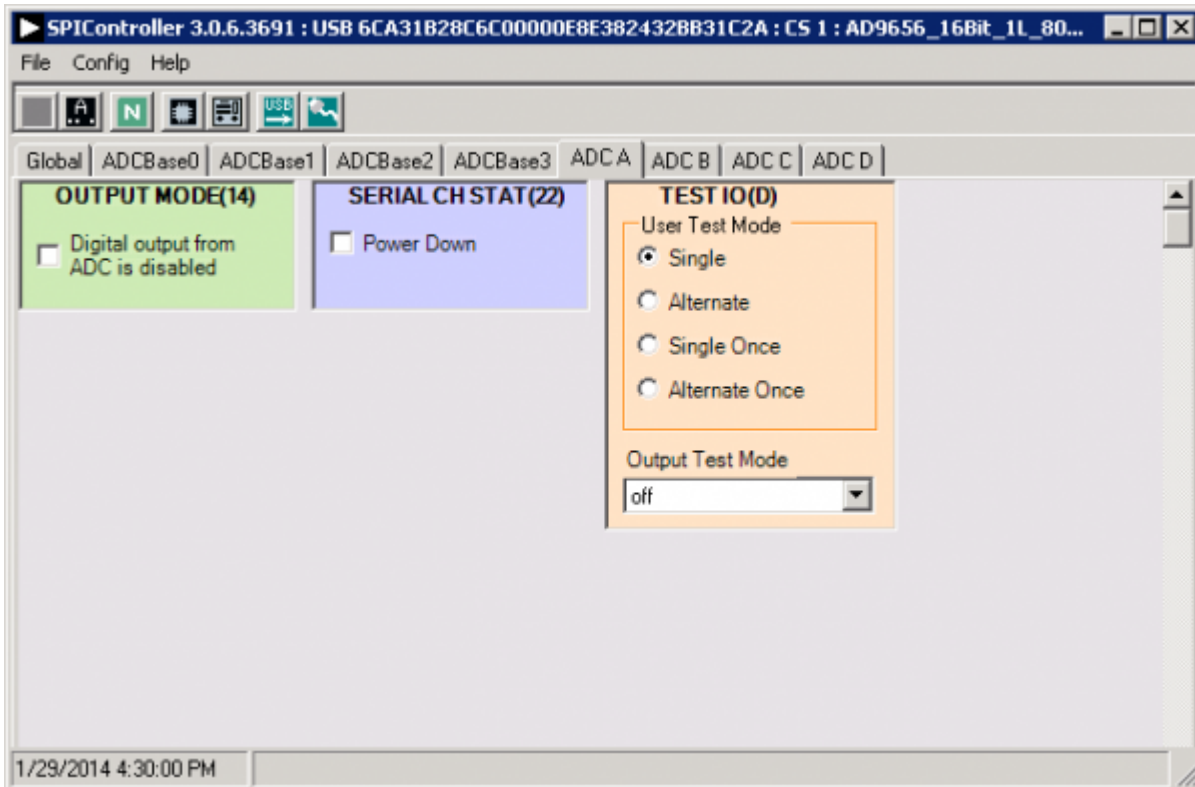

Figure 16. SPI Controller, Example ADC A Page
- Note that other settings can be changed on the **ADCBase0** tab (see Figure 13) and the **ADC A** through **ADC D** tabs (see Figure 16) to set up the part in the desired mode. The **ADCBase0** tab settings affect the entire part, whereas the settings on the **ADC A** through **ADC D** tabs each affect the selected channel only. See the data sheet, the AN-878 Application Note, High Speed ADC SPI Control Software, and the AN-877 Application Note, Interfacing to High Speed ADCs via SPI, for additional information on the available settings.